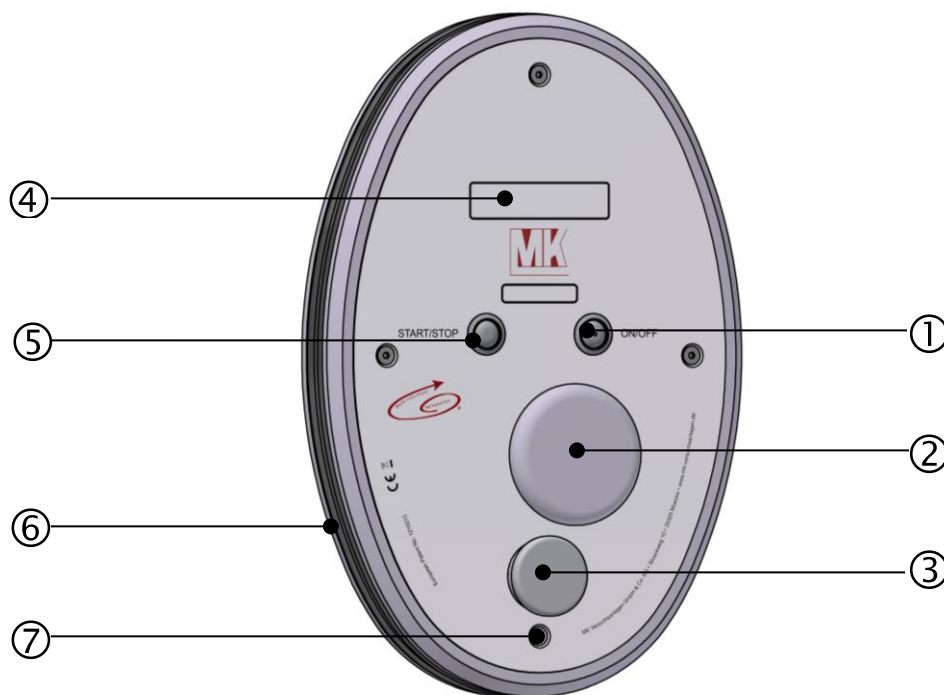

Figure 1: MK Glove Test Device Generation 2 + WLAN
1. Bring the contact surfaces of the battery and test device together (Figure 1 / ①).
- ⇒ Clicking sound confirms correct engagement (Figure 1 / ③).